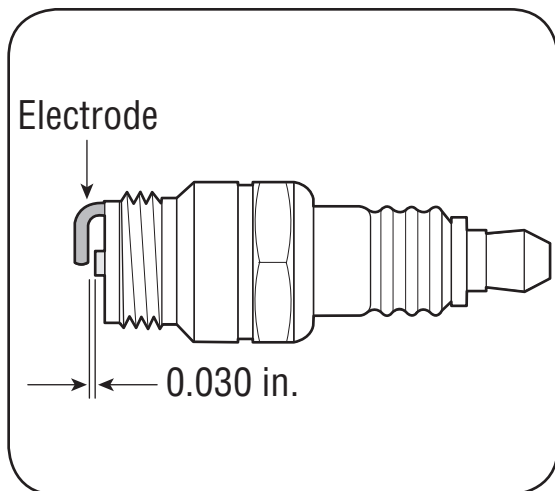

Figure 8
3. Measure the plug gap with a feeler gauge. Correct as necessary by bending side electrode. See Figure 8. The gap should be: 0.030 in.